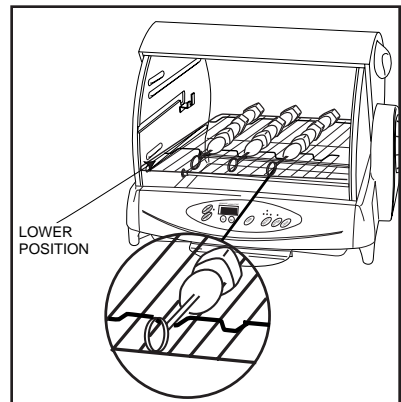

**Figure 10**
2. The Wire Rack can be used in the **upper or lower** positions. See Figure 10.